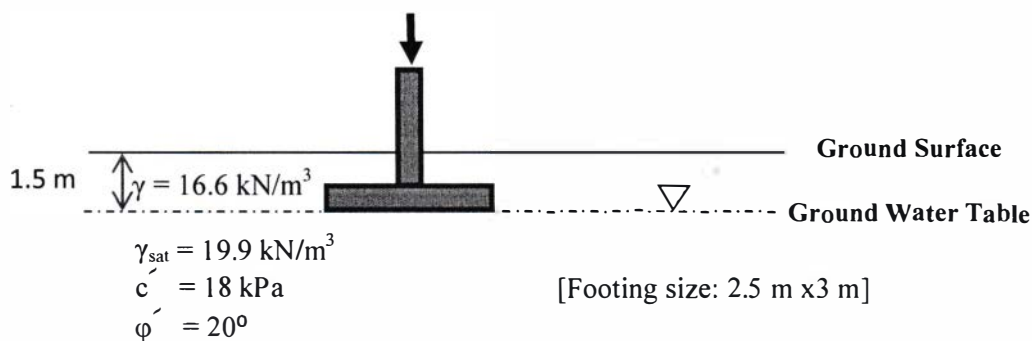

Figure 2
3. For the individual shallow footing (Figure 2), calculate the net allowable bearing capacity for the following cases: